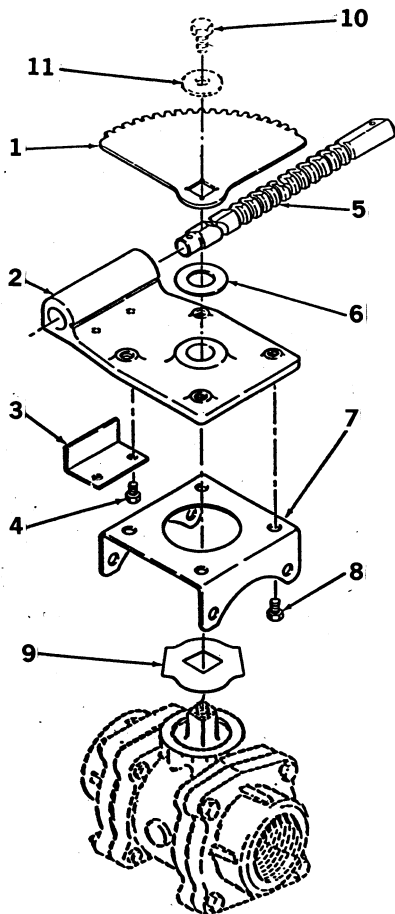

FIGURE 1
6. Place one .010" brown spacer over handle trunnion (see Figure 1).